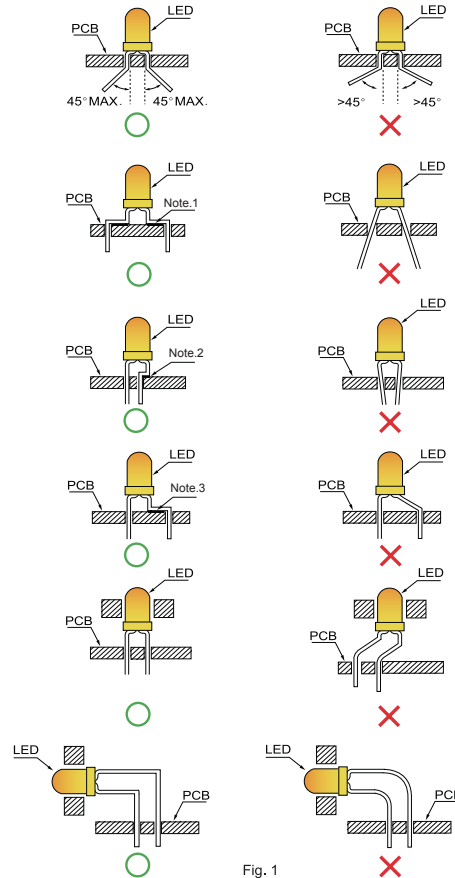

Fig. 1 "O" Correct mounting method "X" Incorrect mounting method
1. The lead pitch of the LED must match the pitch of the mounting holes on the PCB during component placement. Lead-forming may be required to insure the lead pitch matches the hole pitch. Refer to (Fig.1) for proper lead forming procedures.